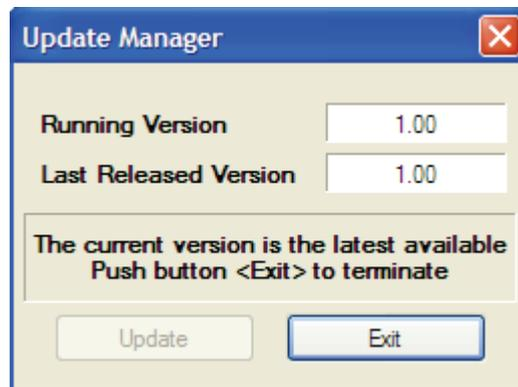

Fig. 7: Update Manager window.
- **Updates:** In the Update Manager window (see Fig. 7) the user can automatically check the **“Running Version”** against the **“Last released Version”** from G.M. International database. The Configuration Software can be updated by pressing the **“Update”** button or left unchanged by pressing the **“Exit”** button.